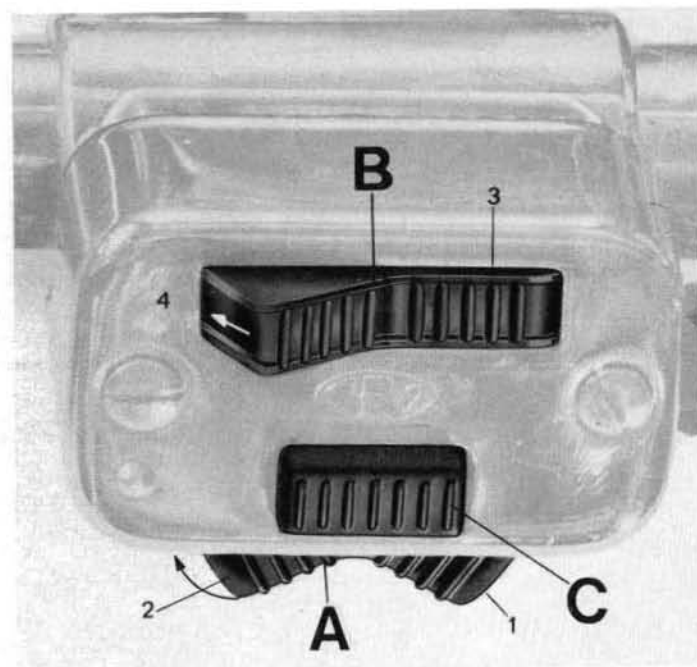

Fig. 7
- 7 - **Dipper switch and horn button** (see fig. 7). On left handlebar.